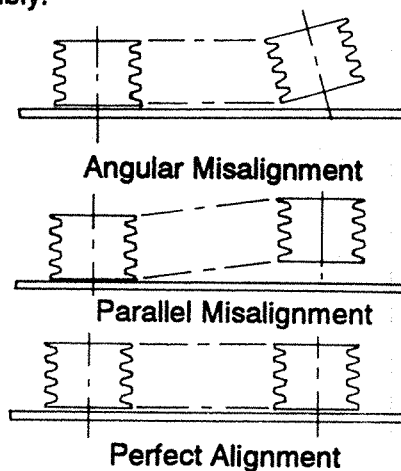

Figure 6. V-belt drive alignment
1. Sheave Alignment – Alignment must be maintained for full power transmission, minimum vibration, and long drive life. A dial indicator can be used to check runout on the periphery and face of each sheave. A straight edge can be used to check the alignment of the pump and drive sheaves in the vertical direction. See Fig. 6 page 6.